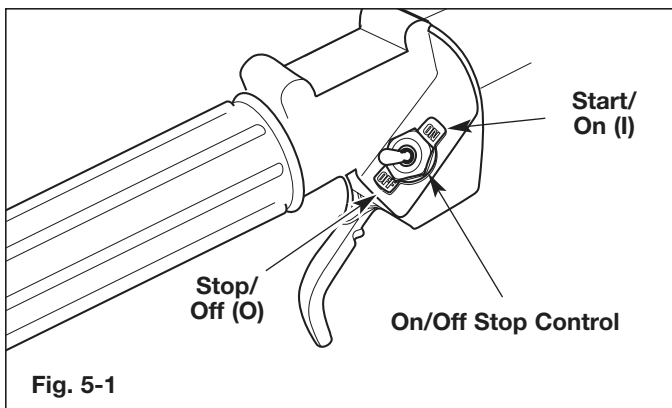
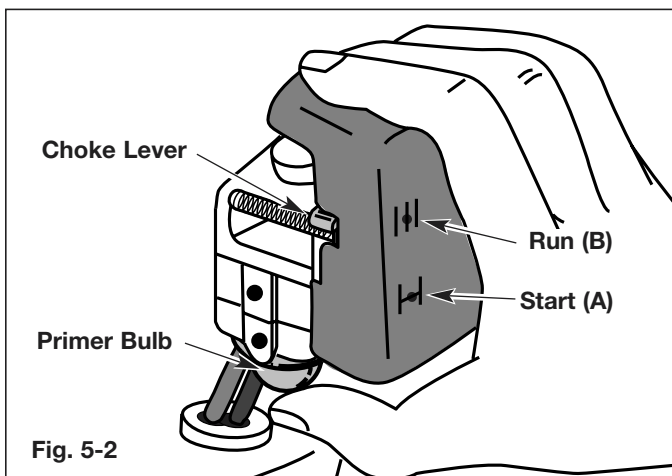

Fig. 5-1
Fig. 5-2
2. Put the On/Off Stop Control in the **START (I)** position (Fig. 5-1).
3. Fully press and release primer bulb slowly 5 to 7 times. Fuel should be felt and visible in the bulb (Fig. 5-2). If fuel hasn't entered the bulb, press three more times, or until it does.
4. Place the choke lever in the **START (A)** position (Fig. 5-2).
6. Place the choke lever in the **RUN (B)** position (Fig. 5-2).
9. Squeeze the throttle control to warm up engine for 5 to 10 seconds. Place the choke lever in the **RUN (B)** position (Fig. 5-2).
NOTE: Choking is unnecessary when starting a warm engine. Put the On/Off Stop Control in the **START (I)** position (Fig. 5-1), and the choke lever in the **RUN (B)** position (Fig. 5-2).
2. To stop the engine, put the On/Off Stop Control in the **STOP [O]** position (Fig. 5-1).